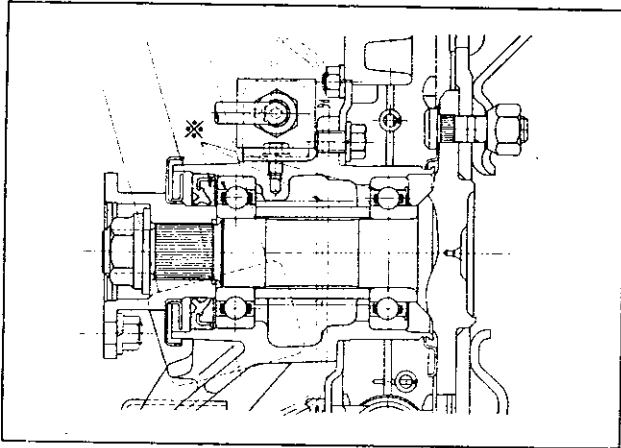

Fig. RA-25 Lubrication chaft of rear axle
1. The outer bearing is provided with a seal in one side. Apply the outer bearing to the rear axle shaft so that the side to which the seal is attached is faced to the wheel. (See Figure RA-25)
Fill the portion indicated by asterisk (\*) in Figure RA-25